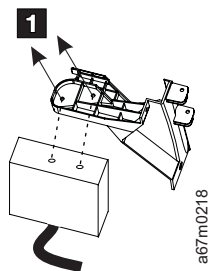

Figure 90. Removing the Bar Code Scanner
- 7. Remove the existing bar code scanner by loosening the two screws on the top of the I/O door bracket (see Figure 90) and detaching the scanner from the bracket.